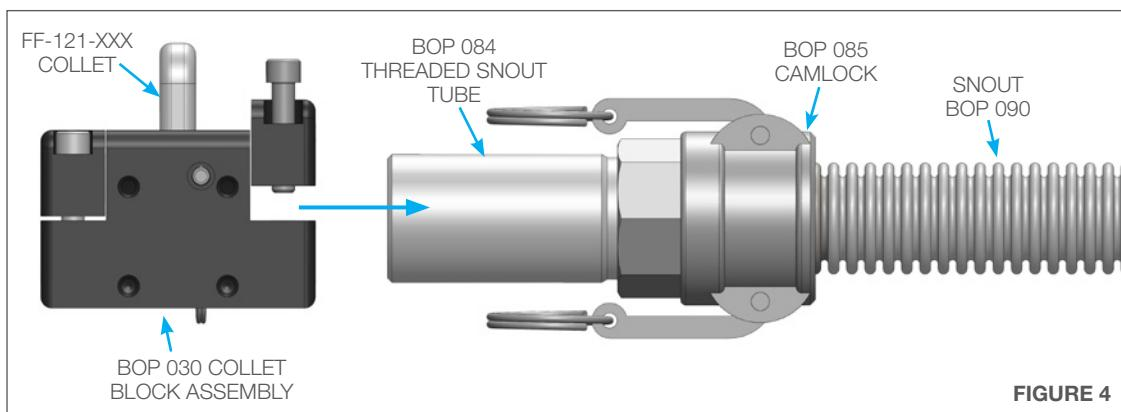

FIGURE 4
4. Rotate the Cam Lever clockwise to the “**Engaged**” position to tighten the Idler Roller down onto the hose. Push the Adjustable Handle down to tighten the bushing assembly. (**Figure 4**)
4. Loosen the two screws on the collet cap block and slide the BOP 030 Collet Block Assembly onto the BOP 084 Threaded Snout Tube. Push the Collet Block until it stops on the Snout Tube, then tighten the two screws securely. (**Figure 4**)
- Insert the BOP 058 Female Positioner Assembly into the Hinge Clamp Assembly. This can be done in the open or closed position and is designed to be adjustable based on the size of the pipe. (**Figure 4**)